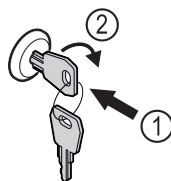

Fig. 181
- Insert the key. Fig. 181 (1)
- Turn the key clockwise by 90°. Fig. 181 (2)